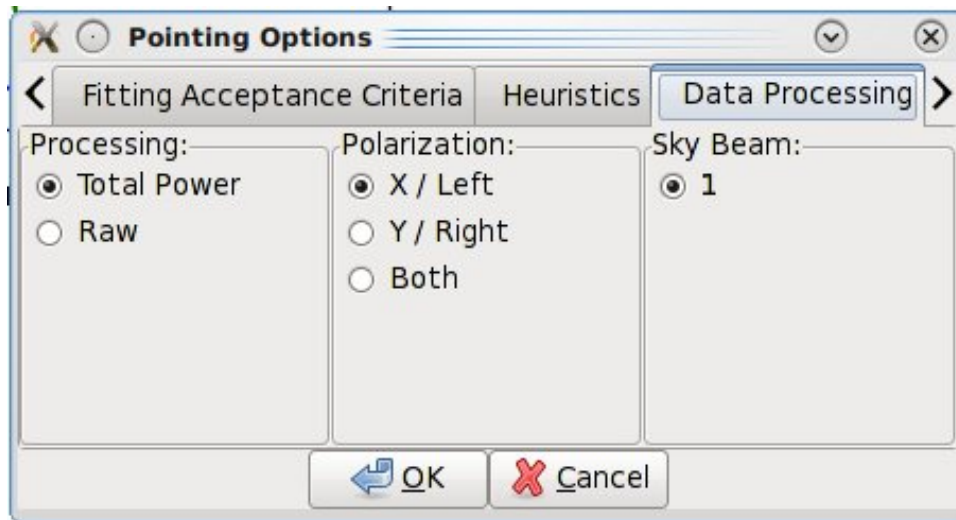

Figure 5.5: The pop-up menu to change the polarization and calibration used in pointing and focus fitting.
Step 6 Make the new data processing selections in the pop-up window. (see Figure 5.5).